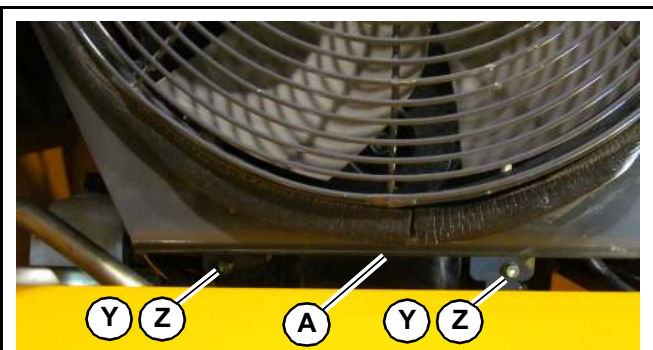

Fig. 301 – Disconnect Lower Fan Shroud
23. Remove two locknuts (Y, Fig. 301), two carriage bolts (Z), and fan shroud (A) from the rear engine mounts.